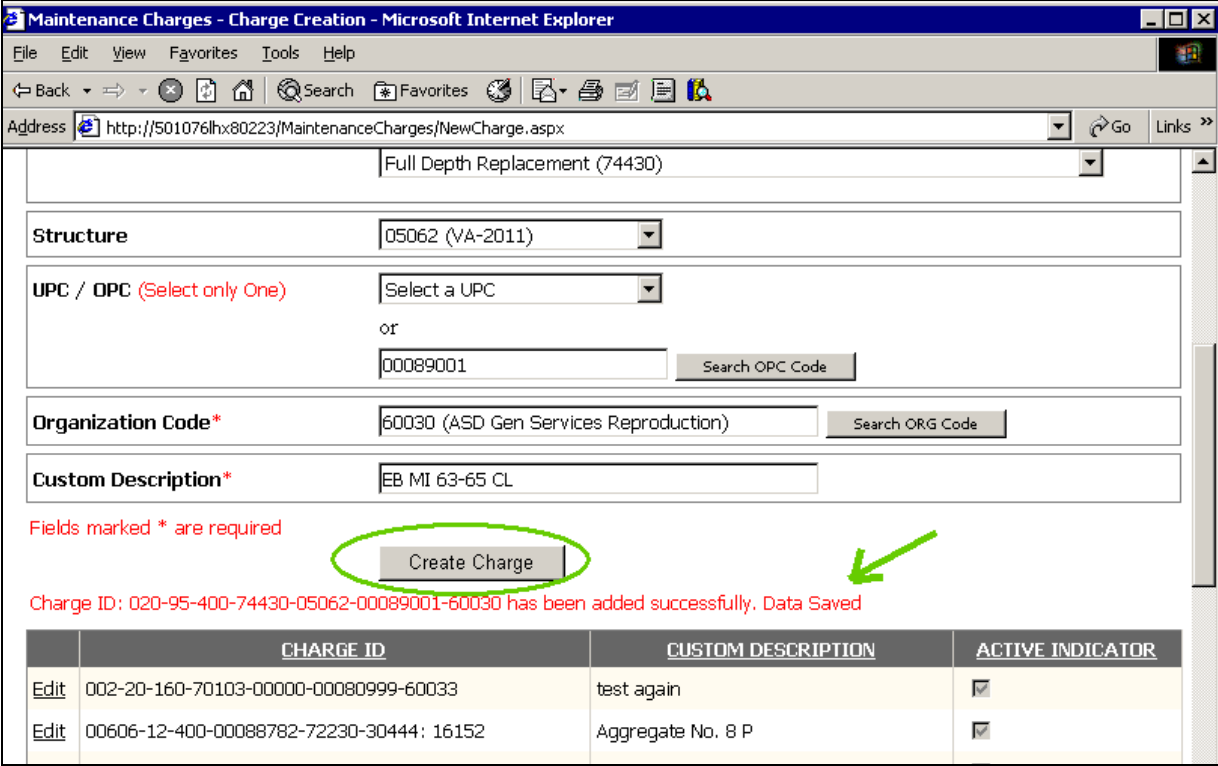

Figure 29
Step 10: Selection of Charge ID Parameters are now complete. Click **Create Charge** button to create the charge and save the charge in the database. The new charge that has been created will be shown in the list of charges for the Contract in the bottom part of the screen. Also message will be shown in the screen indicating charge id is created, added successfully and saved. If there are any errors during the creation of the charge, error details are shown for the user to correct and save. (Figure 29)